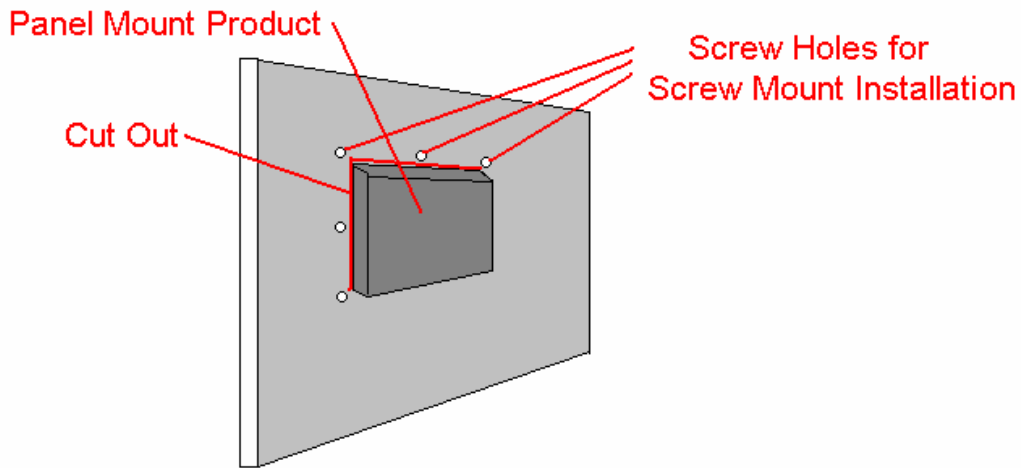

Fig. 2
- 5-4. Finish all the screws mounting one by one then you can have a secure installation for your Panel Mount product. See Fig. 2.